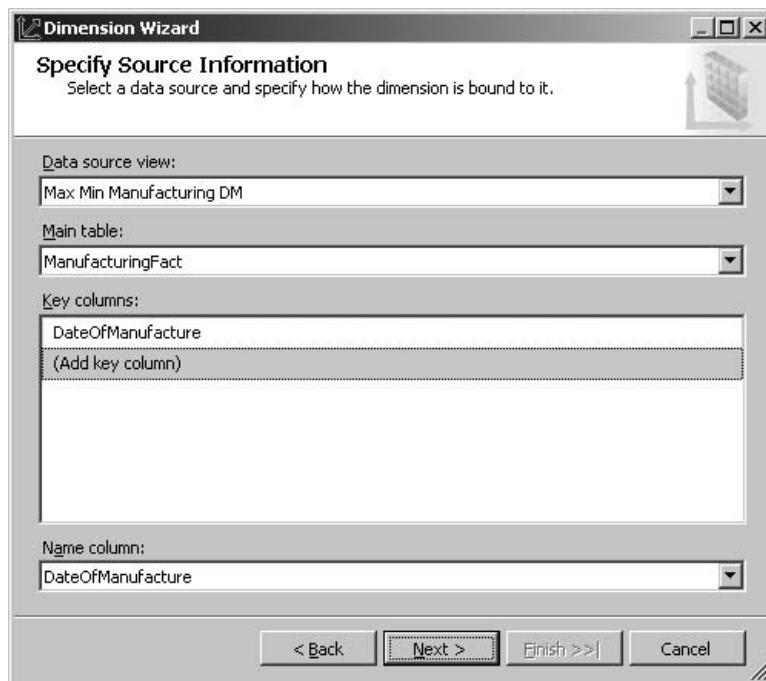

Figure 9-11 Creating the Time Dimension
8. Select DateOfManufacture from the Name column drop-down list. The Specify Source Information page of the wizard should appear as shown in Figure 9-11.